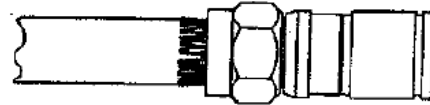

Fig 2
6. Apply the nut end of the connector to the prepared cable to smooth dielectric (Fig. 2).